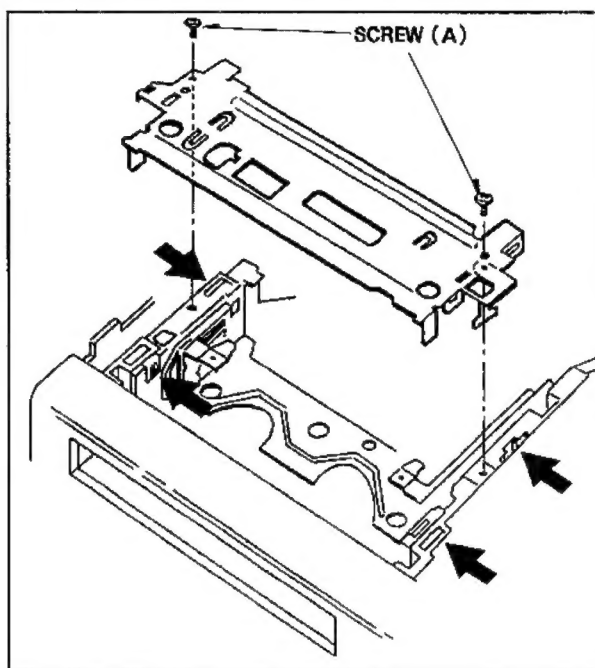

Fig.G4
1. Unscrew 2 screws (A) and unlock 4 locking tabs to arrow direction as shown in Fig.G4.